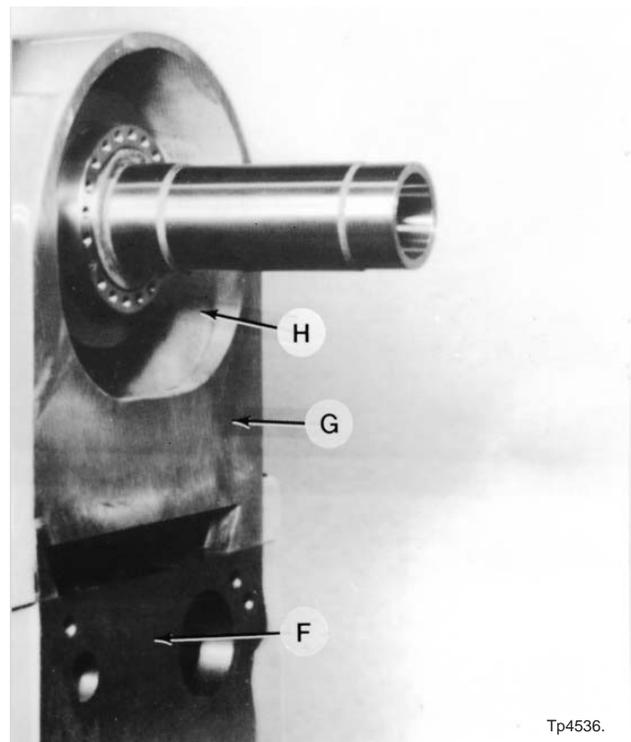
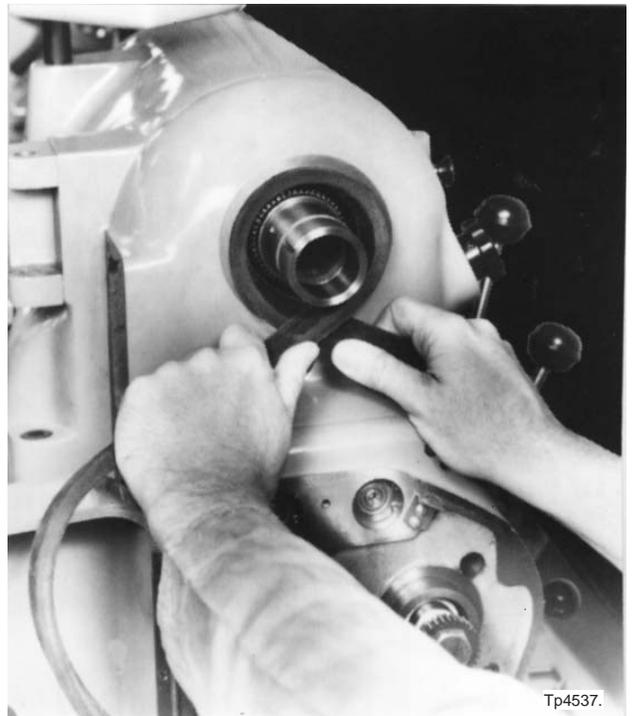

Figure 4.80 - Headstock Locating Surfaces
Figure 4.81 - Spindle Belt Replacement
7. Position the headstock to locate machined surface “G”, Figure 4.80, of the headstock .008" [0.2 mm] forward (toward the tailstock end of the machine) of machined surface “F” on the bed casting.
When replacing the spindle belt, the gearbox shown in Figure 4.81, will not be mounted. This allows for easier spindle belt replacement.
22. Cross the spindle belt, as shown in Figure 4.81, feed it through opening “H”, Figure 4.80, and down into the pedestal.